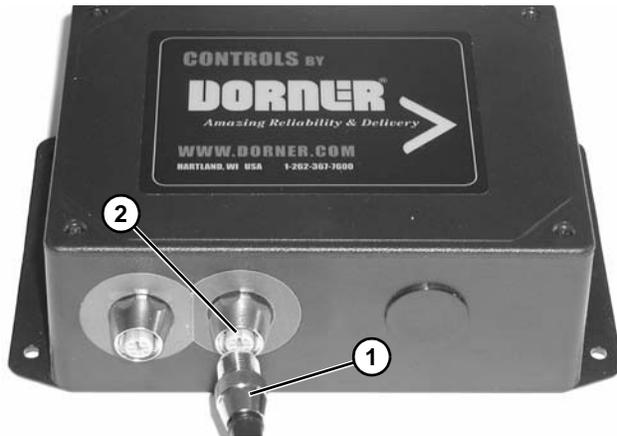
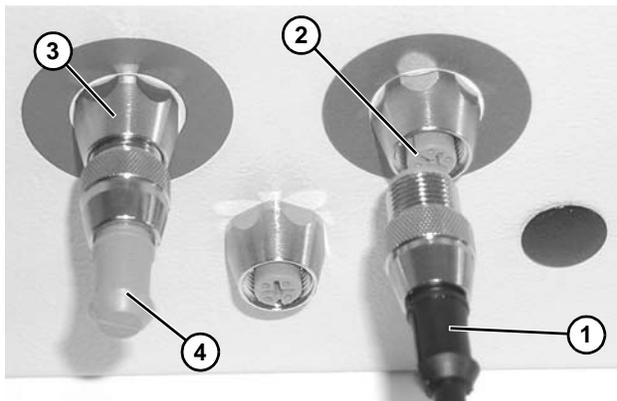

Figure 35
Figure 36
2. Connect opposite end of linking cable kit (Figure 35, item 1) or (Figure 36, item 1) to the green port (Figure 35, item 2) or (Figure 36, item 2).
3. For Remote Full Featured VFD controllers, ensure the enclosed termination plug (Figure 36, item 4) is connected to green port (Figure 36, item 3).